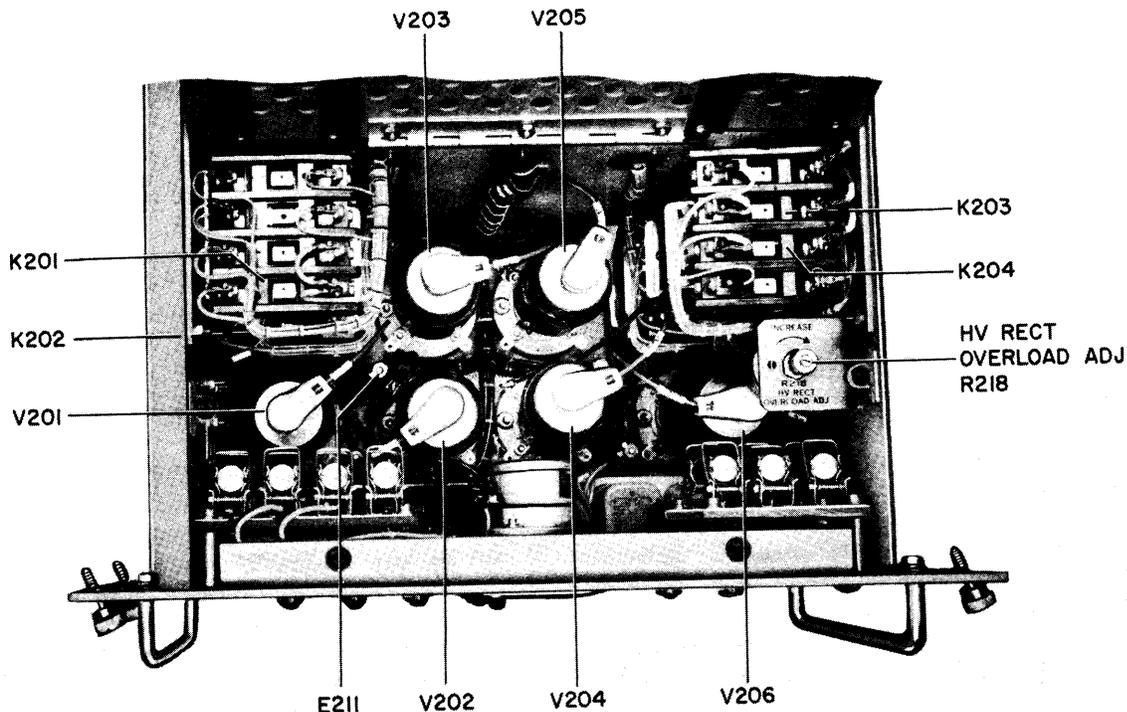

Figure 6-1. Power Supply PP-2222/WRT, Electrical Adjustments and Location of Tubes
b. POWER SUPPLY PP-2222/WRT.—The only adjustment in Power Supply PP-2222/WRT is HV RECT OVERLOAD ADJ potentiometer R218. The step by step outline of the procedure for adjusting R218 is given in paragraph 6-2*b*(2). For location of test points and adjustments refer to figure 6-1.
(1) TEST EQUIPMENT AND SPECIAL TOOLS.—The test equipment required for making the adjustments in Power Supply PP-2222/WRT consists of: